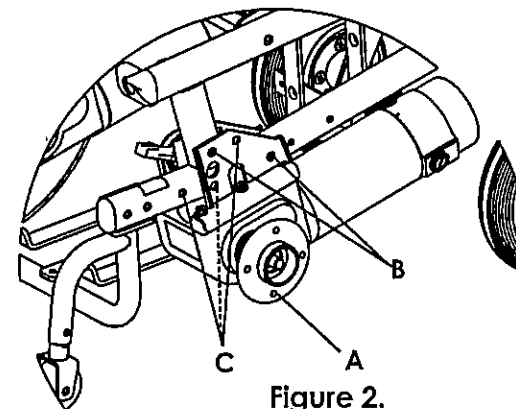

Figure 2.
Start by removing the four 5/16-24 cap screws (222194) that thread into the hub (Figure 2, A), holding the outer rear wheel, using a 1/4" Allen wrench. This exposes the two 5/16-18 hex bolts (222235) that hold the motor to the frame. Figure 2 depicts the short base configuration using hole set (B). Long bases will have bolts using hole set (C).